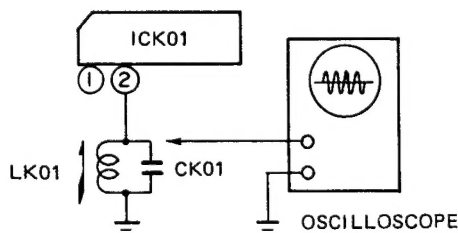

Figure 8. Equipment Connections
2. Connect an oscilloscope across CK01. (See figure 8.)